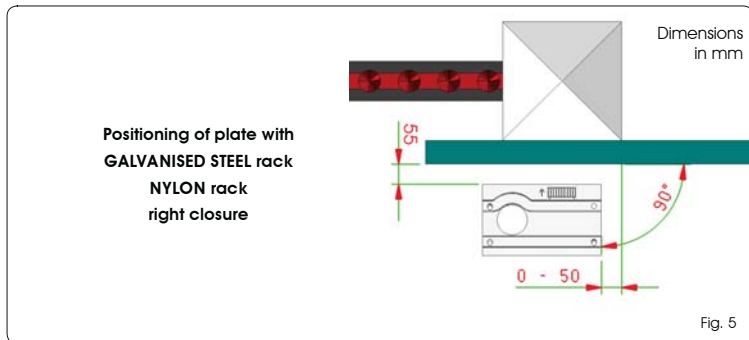

Fig. 5
2. The foundation plate must be located as shown in Fig. 5 (right closing) or Fig. 6 (left closing) to ensure the rack and pinion mesh correctly.